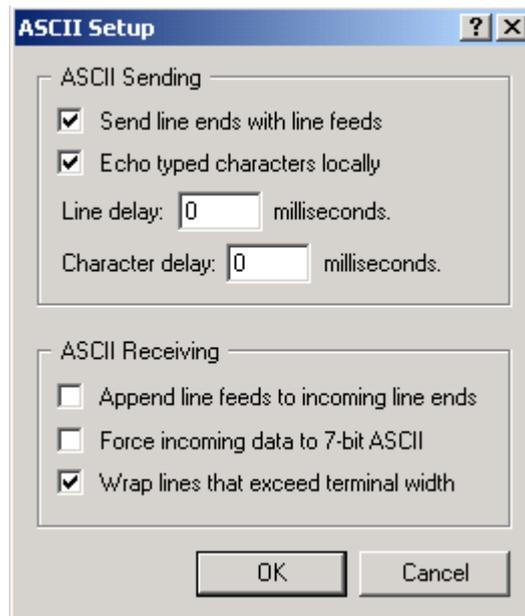

Figure 3.5
- g) in the same window and tab click the **ASCII Parameters...** button and set the following input/output settings as shown in Figure 3.5;